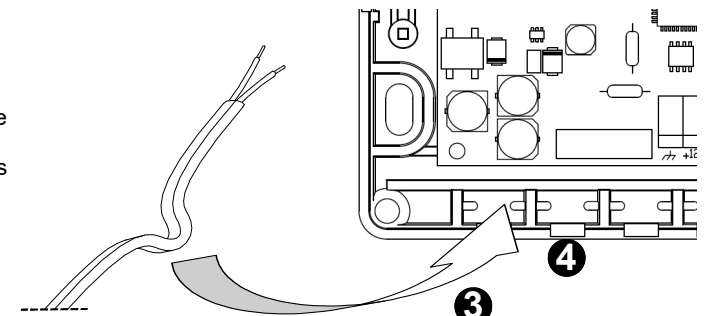

Fig. 3: Slipping the cables through the opening.
- The cables must be 'folded' as shown in Fig. 3 and passed through the cable clamps **3**.
- If a cable entry and the related cable clamp is used it is necessary to eliminate with a suitable plier the plastic tooth **4** Fig. 3 so to open the cable passage.